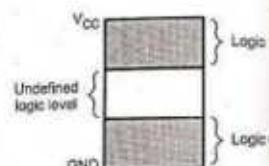

Fig. 2.1.2 Voltage range for positive logic system
- In practice, the voltages at different nodes in the digital circuit may differ slightly due to internal resistances, parasitic effects and loading effects. Therefore, to define a logic level, a range of voltage is assigned instead of a particular voltage level. This is illustrated in Fig. 2.1.2.